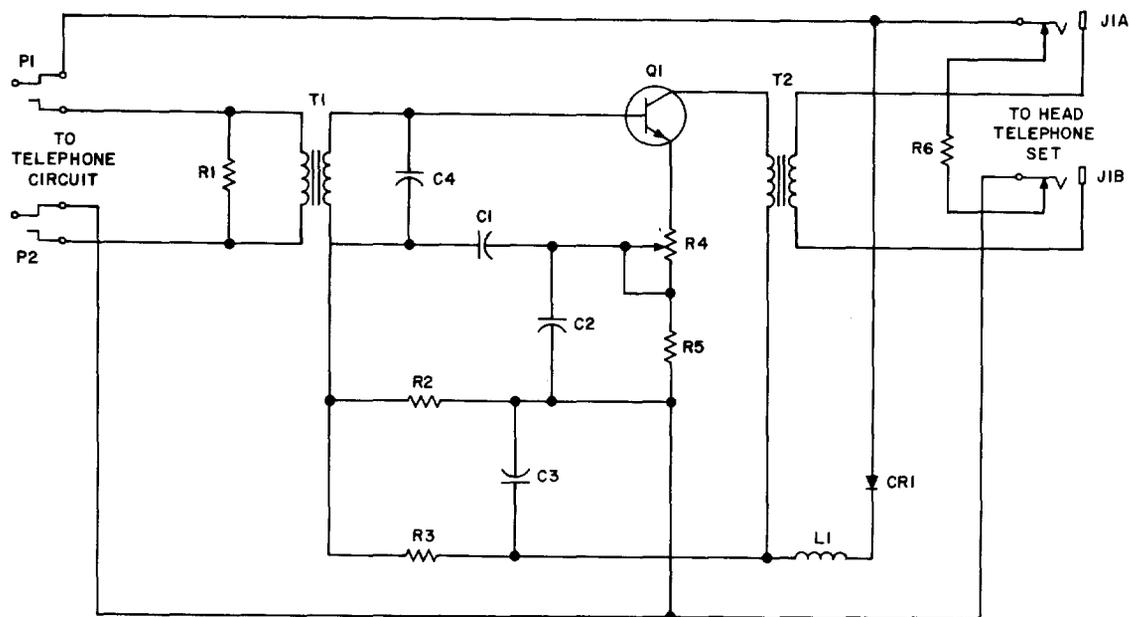

Fig. 3—Schematic —153A Amplifier
2.02 The 153A amplifier circuit is as shown in Fig. 3 and has a gain variable from approximately -2 dB to +20 dB. The nominal gain is 20 dB but, due to variations in transistors and other components, the gain may range from -2 dB at the minimum setting to +22 dB at the maximum volume control setting. The required operating voltage is approximately 5 volts which is obtained from the transmitter battery supply of the telephone circuit.